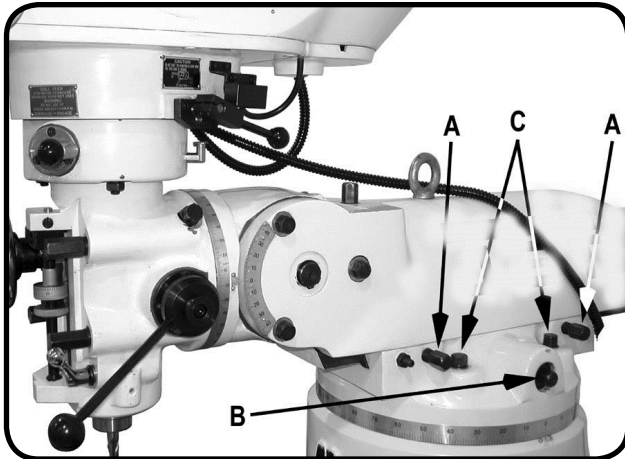

Fig. 25
2. Loosen the two bolts (A, Fig. 25) that lock the ram to its ways.
3. Make sure there are no obstructions to ram travel, especially any tooling around workpiece, then slowly rotate adjustment bolt "B" Fig. 25. to move ram.
4. When the desired position is reached, lock the bolts (A, Fig. 25) securely.
2. Loosen four turret lock bolts (C, Fig. 25) that clamp the ram to the top of the base. A half a turn should be sufficient to allow the ram to move.